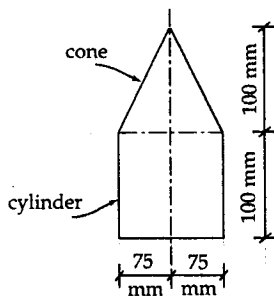

Fig. 13
9. (a) Find the surface area and volume of 10+4 the solid shown in fig.13 using pappu-Guldinus theorems.